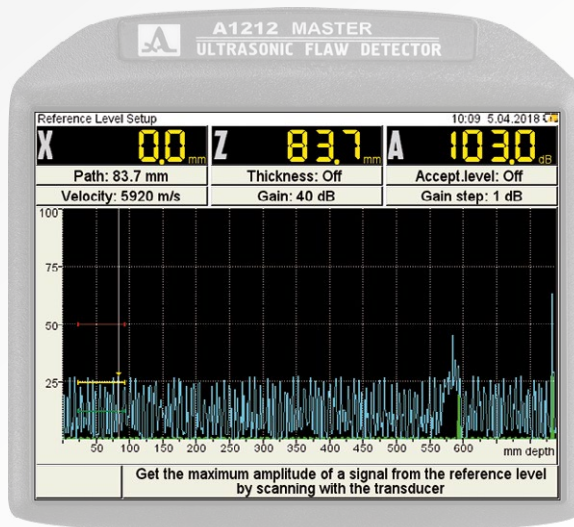

Figure 17
- select the "Reference level" parameter and activate it by pressing the key. A configuration window of the reference level will be opened (Figure 17);